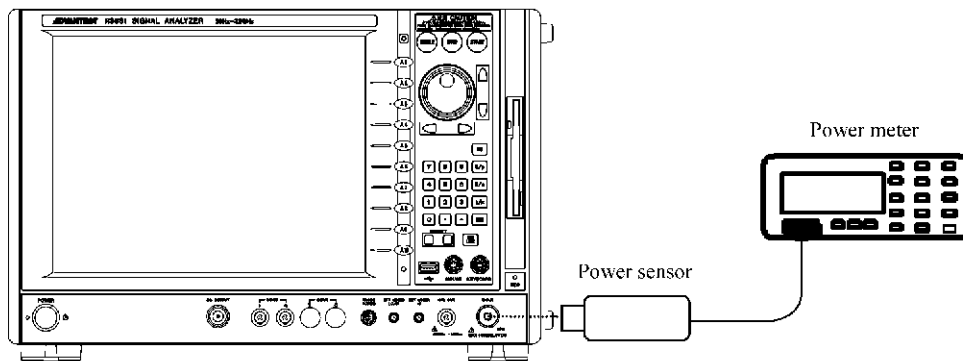

Figure 8-28 Verification Connection Diagram of the Attenuator Hold Level Variable Range
2. Connect the instruments as shown in Figure 8-28.